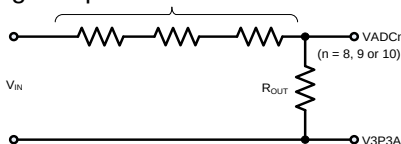
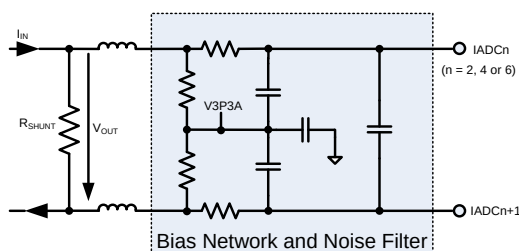
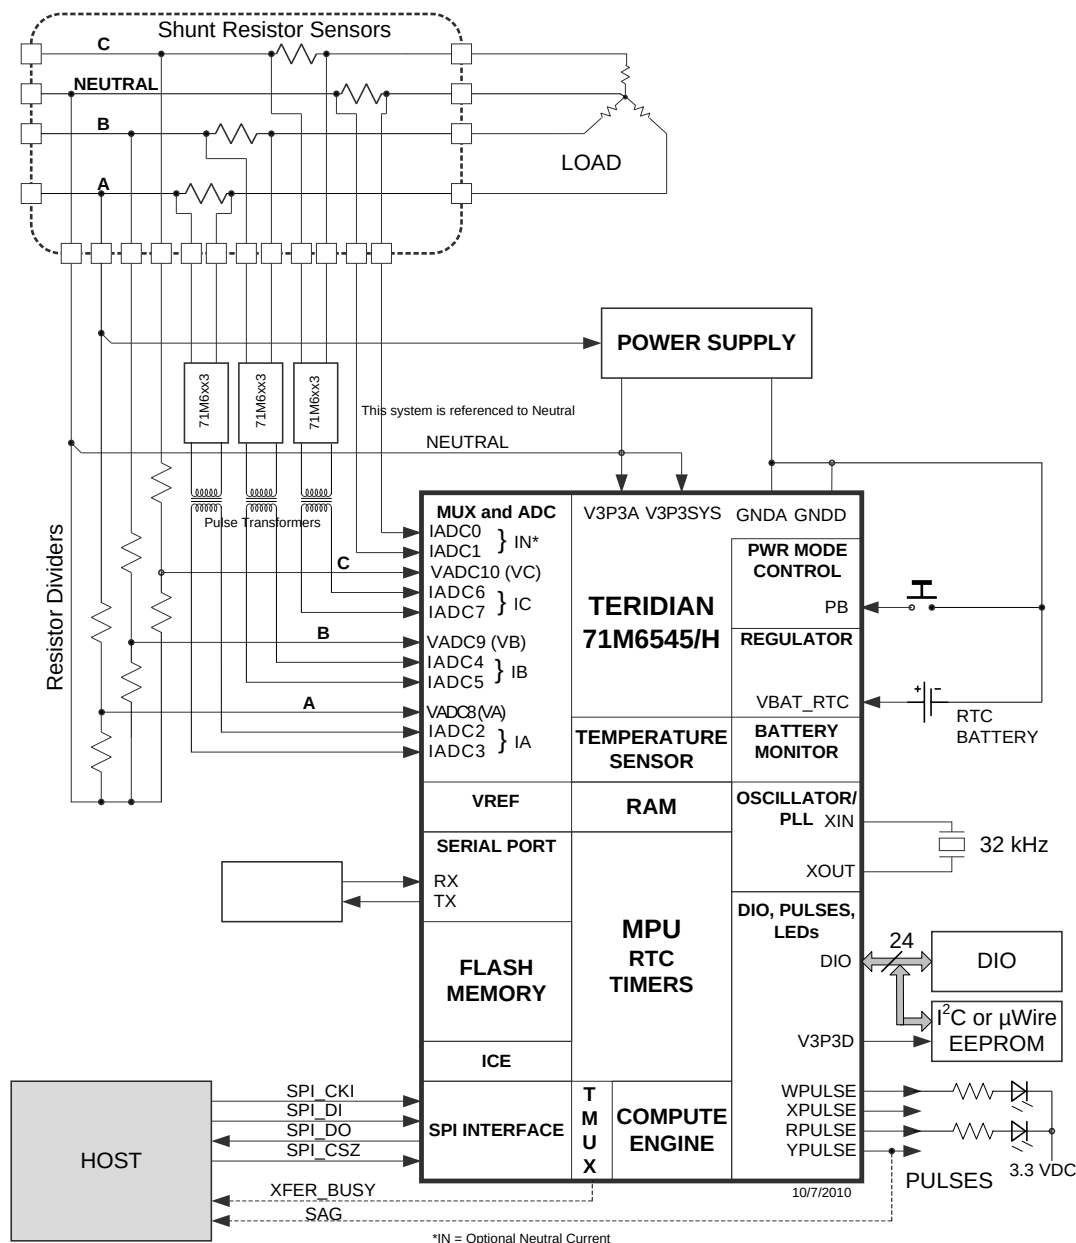
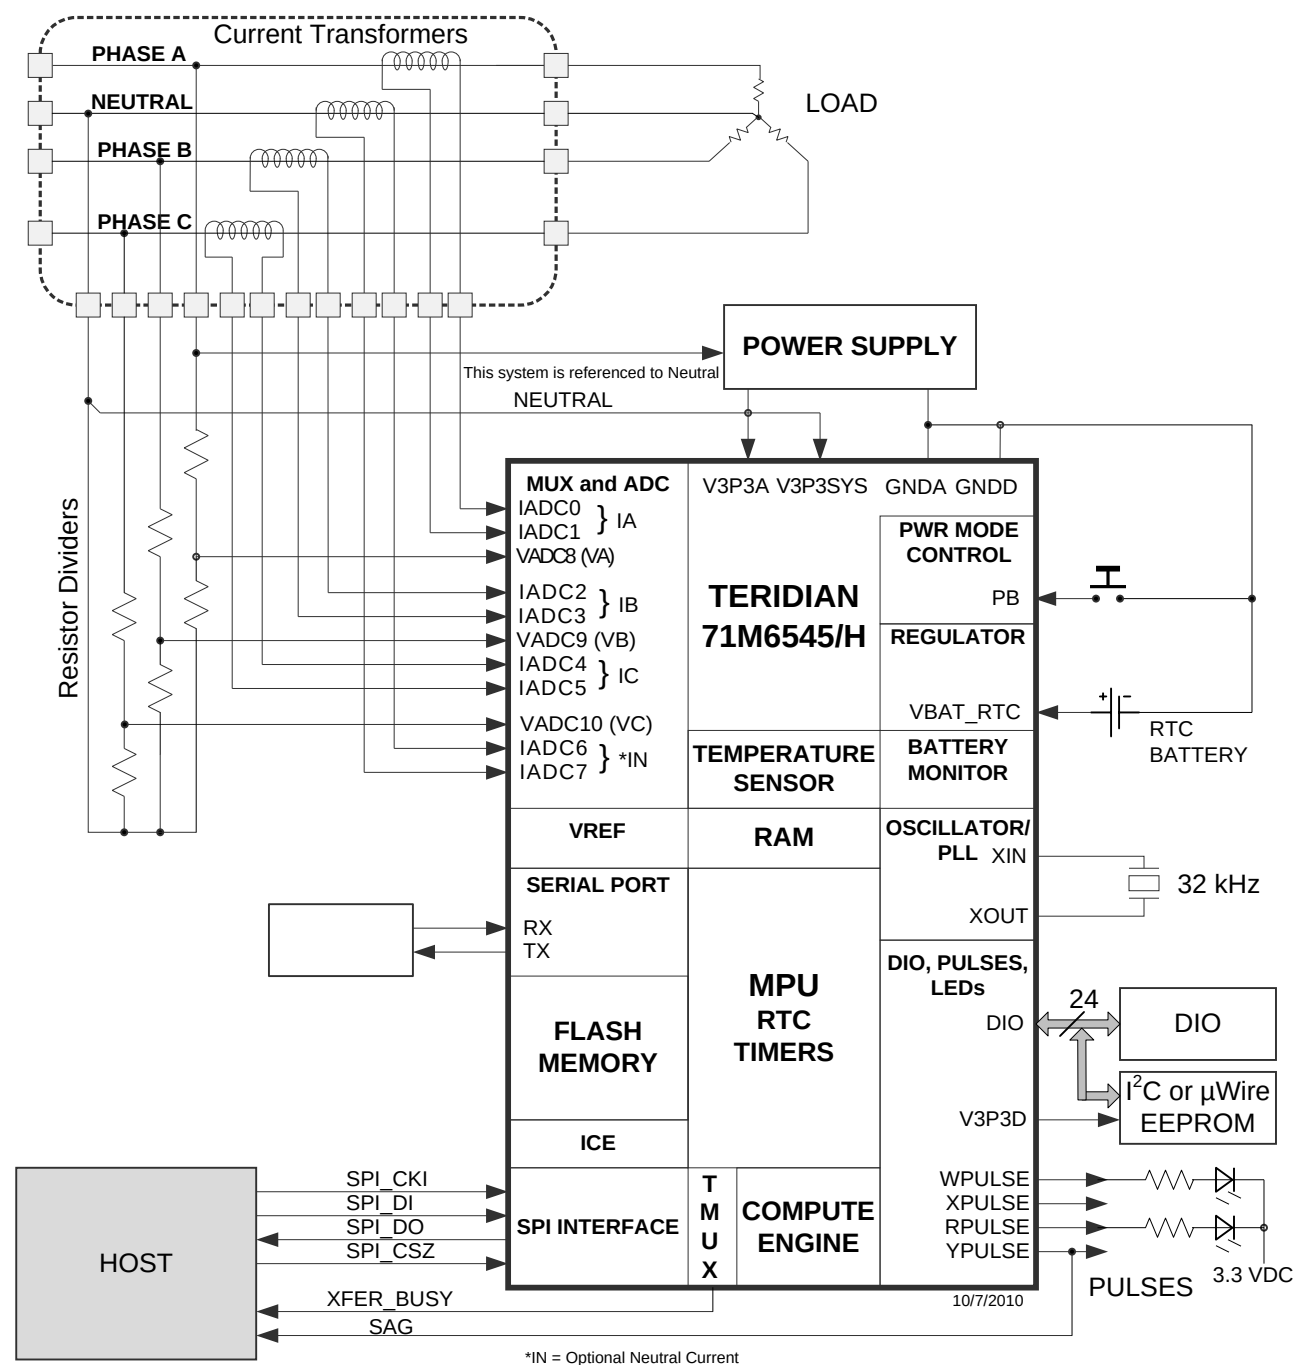

Figure 23: Resistive Voltage Divider (Voltage Sensing)
Figure 26: Differential Resistive Shunt Connections (Current Sensing)
Figure 27: System Using Three-Remotes and One-Local (Neutral) Sensor
Figure 28. System Using Current Transformers
Figure 23 through Figure 26 show voltage-sensing resistive dividers, current-sensing current transformers (CTs) and current-sensing resistive shunts and how they are connected to the voltage and current inputs of the 71M6545/H. All input signals to the 71M6545/H sensor inputs are voltage signals providing a scaled representation of either a sensed voltage or current.
Figure 27 shows a typical connection for current shunt sensors; using the 71M6xx3 (poly-phase) isolated sensors. Note that one shunt current sensor is connected without isolation, which is the neutral current sensor in this example (connected to pins IADC0-IADC1). Each 71M6xx3 device is electrically isolated by a low-cost pulse transformer. The 71M6545/H current sensor inputs must be configured for remote sensor communications, as described in 2.2.8. Flexible remapping using the I/O RAM registers $MUX_n_SEL[3:0]$ allows the sequence of analog input pins to be different from the standard configuration (a corresponding CE code must be used). See Figure 2 for the AFE configuration corresponding to Figure 27.
Figure 28 shows a poly-phase system using four current transformers to support optional Neutral current sensing for anti-tamper purposes. The Neutral current sensing CT can be omitted if Neutral current sensing is not required. The system is referenced to Neutral (i.e., the Neutral rail is tied to V3P3A and V3P3SYS).
This section discusses metrology temperature compensation for the meter designs where current shunt sensors are used in conjunction with Teridian's 71M6xx3 remote isolated sensors, as shown in Figure 27.
Referring to Figure 27, the VADC8 (VA), VADC9 (VB) and VADC10 (VC) voltage sensors are always directly connected to the 71M6545/H. Thus, the precision of the voltage sensors is primarily affected by VREF in the 71M6545/H. The temperature coefficient of the resistors used to implement the voltage dividers for the voltage sensors (see Figure 23) determine the behavior of the voltage division ratio with respect to temperature. It is recommended to use resistors with low temperature coefficients, while forming the entire voltage divider using resistors belonging to the same technology family, in order to minimize the temperature dependency of the voltage division ratio. The resistors must also have suitable voltage ratings.
Table 57 shows the five *GAIN_ADJ_x* equation output storage locations and the voltage or current sensor channels for which they compensate for the 1 Local / 3 Remote configuration shown in Figure 27.
Table 57: GAIN_ADJ_n Compensation Channels (Figure 2, Figure 27, Table 1)
This section discusses metrology temperature compensation for meter designs where Current Transformer (CT) sensors are used, as shown in Figure 28.
Referring to Figure 28, the VADC8 (VA), VADC9 (VB) and VADC10 (VC) voltage sensors are directly connected to the 71M6545/H. Thus, the precision of the voltage sensors is primarily affected by VREF in the 71M6545/H. The temperature coefficient of the resistors used to implement the voltage dividers for the voltage sensors (see Figure 23) determine the behavior of the voltage division ratio with respect to temperature. It is recommended to use resistors with low temperature coefficients, while forming the entire voltage divider using resistors belonging to the same technology family, in order to minimize the temperature dependency of the voltage division ratio. The resistors must also have suitable voltage ratings.
Table 58: GAIN_ADJx Compensation Channels (Figure 3, Figure 28, Table 2)